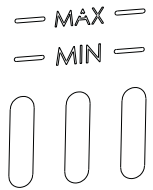

Figure 10
**Hot Medium and Topping Up Medium** DO NOT FILL MEDIUM PAST -MAX- LEVEL MARK (Maximum Hot Fill Mark). (See Figure 10).